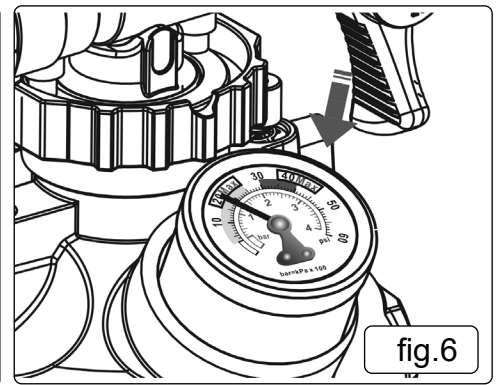

fig.6
4.1.6. The pressure will be indicated on the pressure gauge (the safety valve will open automatically). (fig.6)